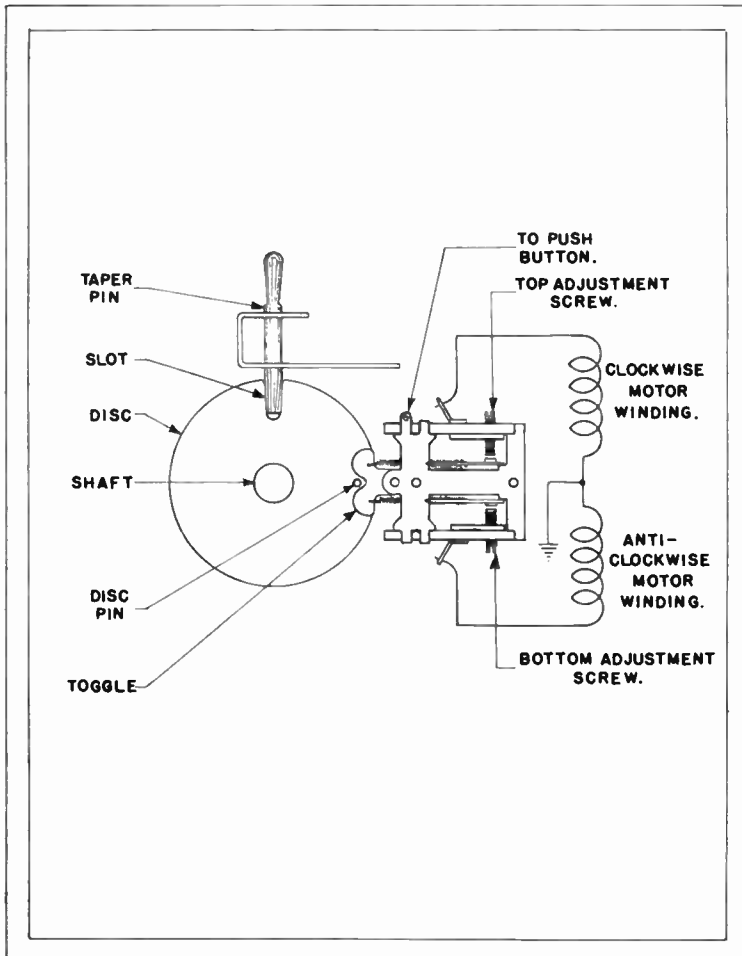

Fig. 6
The push button electric tuning system employed in this receiver incorporates eight push buttons, a selector switch and a dynatrol motor. The discriminator switch, item 59 — also Figs. 6 and 7, incorporates eight metallic discs, each of which operates in conjunction with a different push button to tune-in some favorite station. That is, the 1st push button on the left as you face the front of the cabinet works with No. 1 disc, and the 2nd push button works with No. 2 disc, etc.